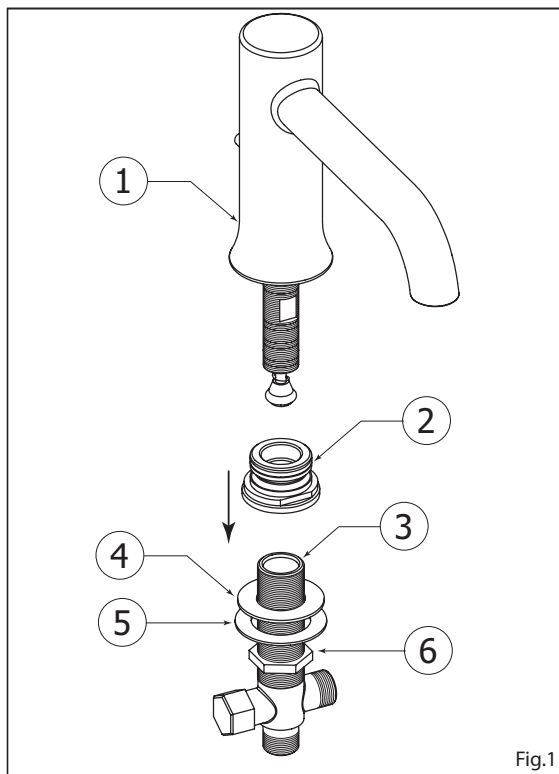

Fig.1
Pull-out the spout (1) from its slipfit base (2). (see Fig.1)
Séparer le bec (1) de l'écrou de retenue (2) (Voir fig 1)